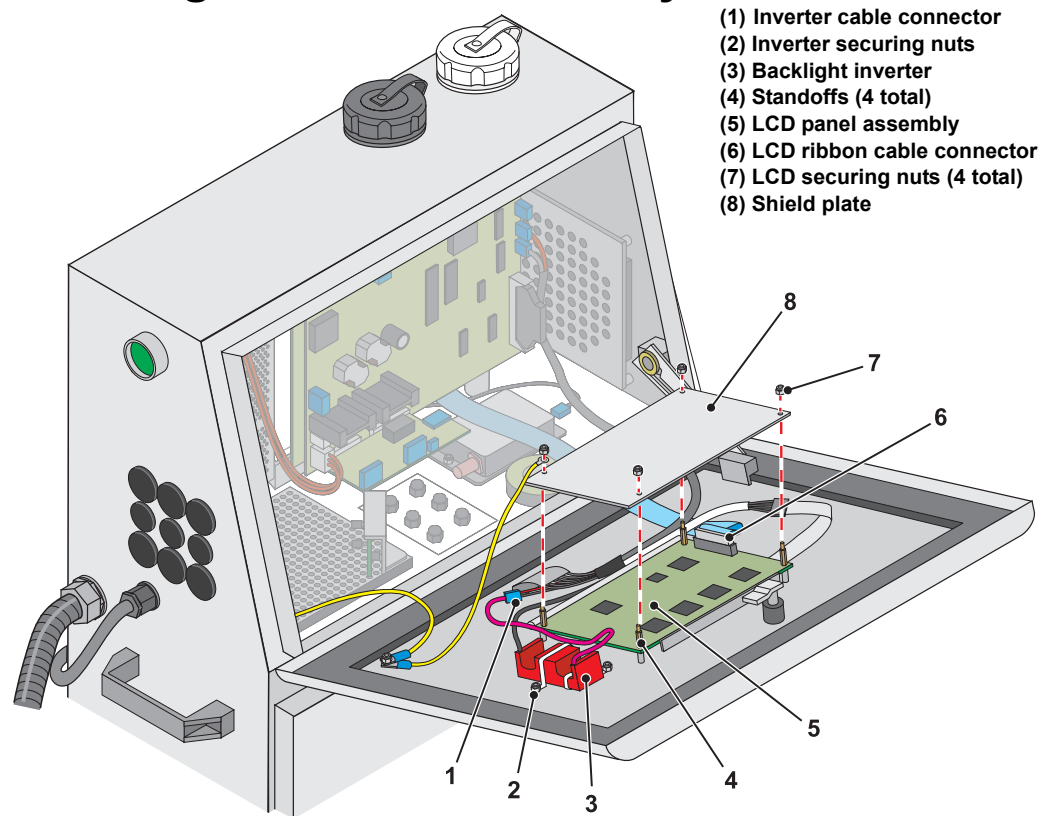

Figure 8-7. Removing the LCD Panel
- 2 Remove the four securing nuts (Item 7 in Figure 8-7) and lift off the shield plate (8). Set both nuts and plate aside.
- 3 Disconnect the LCD ribbon cable (6) and the backlight cable (1).
- 4 Remove the four standoffs (4) and set aside.
- 5 Remove the two nuts (2) that secure the backlight inverter to the compartment door.
- 6 Lift the LCD panel assembly (5) and the backlight inverter (3) off the compartment door as a single unit (these two items are wired together as a single assembly).
- 2** Fit the LCD panel (Item 5 in Figure 8-7) and backlight inverter (3) over the four mounting posts on the electronics compartment door.
- 3** Replace the four standoffs (4) removed in step 4 of the removal procedure.
- 4** Reconnect the inverter cable connector (1) and the LCD ribbon cable connector (6).
- 5** Replace the shield plate (8) and secure with the four nuts (7) removed in step 2 of the removal process.
- 6** Secure the backlight inverter with the two nuts (2) removed in step 5 of the removal procedure.